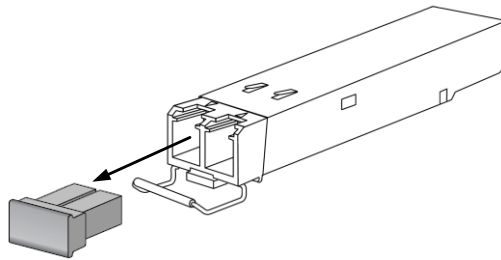

Figure 3: SFP+ Module with bale clasp open and dust plug removed
2. Remove the dust plugs from the module as shown in Figure 3.